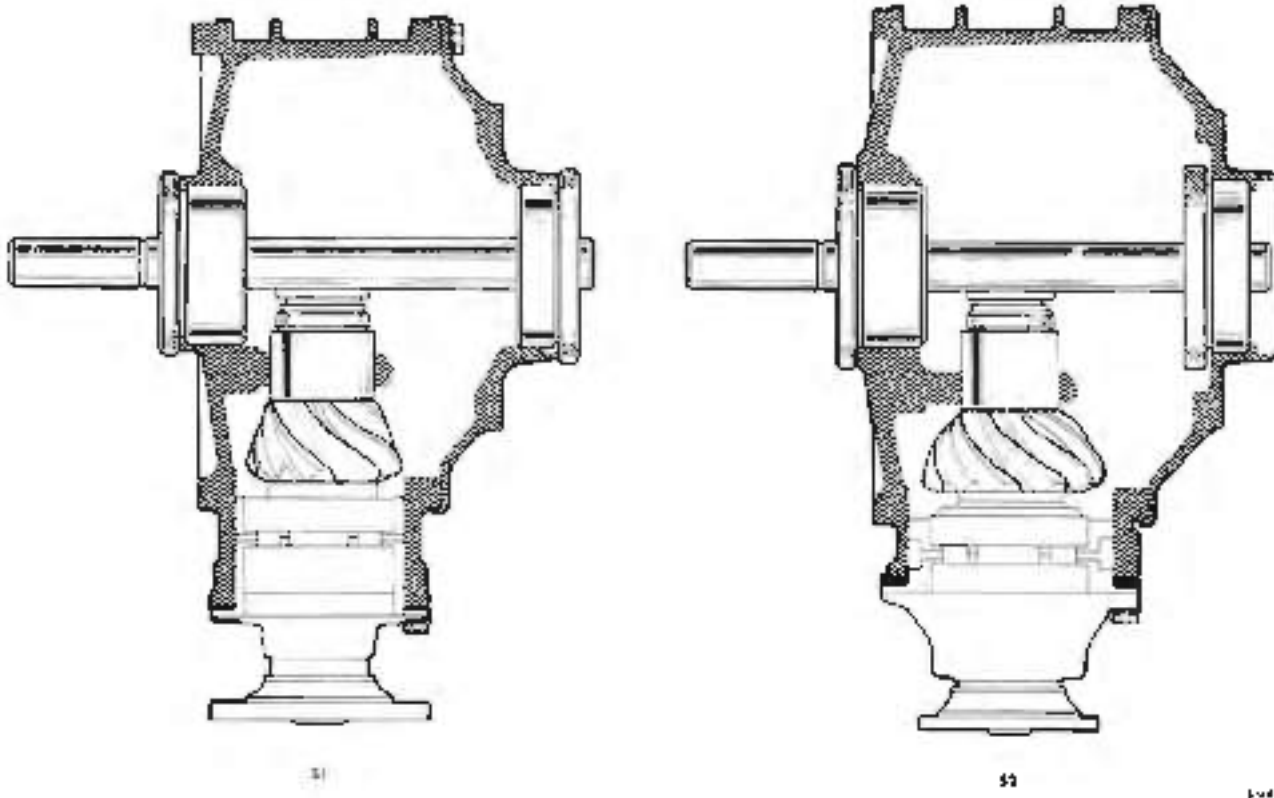

Fig. J19 Pinion setting tool in position
4. Fit the pinion setting tool into the casing as shown in Figure J19, using the original adjusting washer under the pinion housing flange (i.e. clamp it upwards).